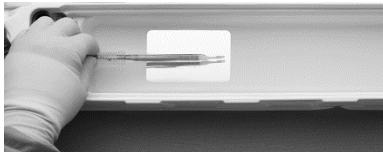

Figure 46
16. Remove the outflow cone and inflow cone from the catheter (Figure 46).